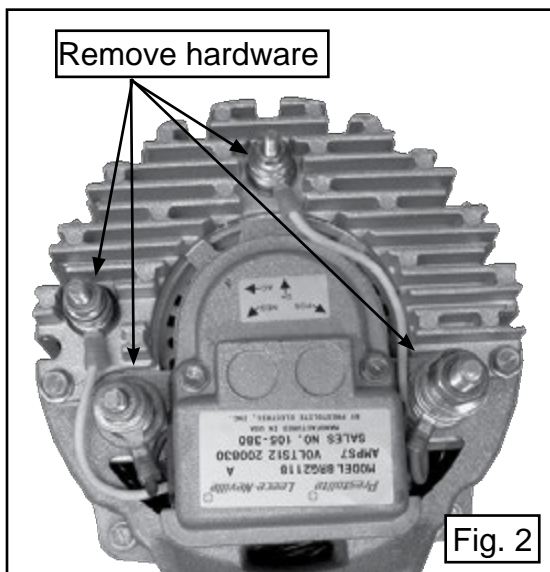

Fig. 2
Step 1: Remove hardware from alternators positive, negative, AC and D+ posts. (Fig. 2)